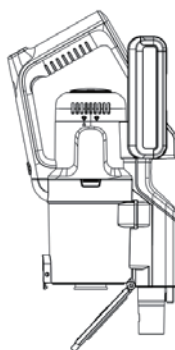

Fig. 12
2. Position the dust container over a refuse bin, then press the lever at the front of the container to open the base (fig. 12) and empty the container. Gently tap the container against the side of the bin to remove any stubborn dust.